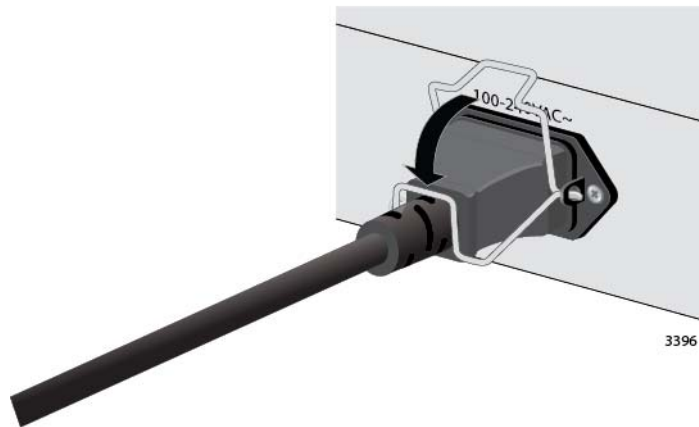

Figure 44. Lowering the Retaining Clip
7. Secure the power cords to the switches by lowering the retaining clips. Refer to Figure 44.